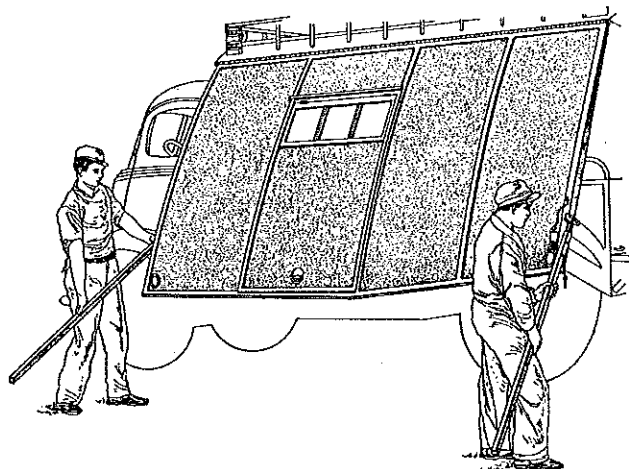

Fig. 11—Swinging Out the Lifting Sides
4. With one man at each support leg, swing out (Fig. 11) and up to the desired position (Fig. 12). Insert cotter pin through the holes in each telescopic support leg to retain the side at the proper height. Be sure to have the cotter pins pass completely through the leg.